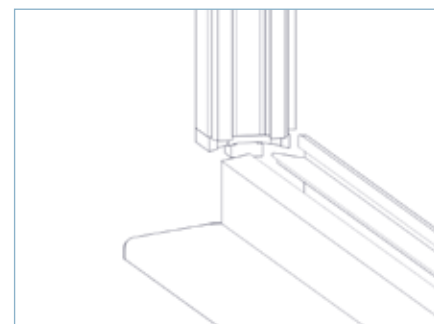

FIG 4A
- ▶ **4.4.** Position the jambs into the tracks using the connectors provided as shown in FIG 4A.